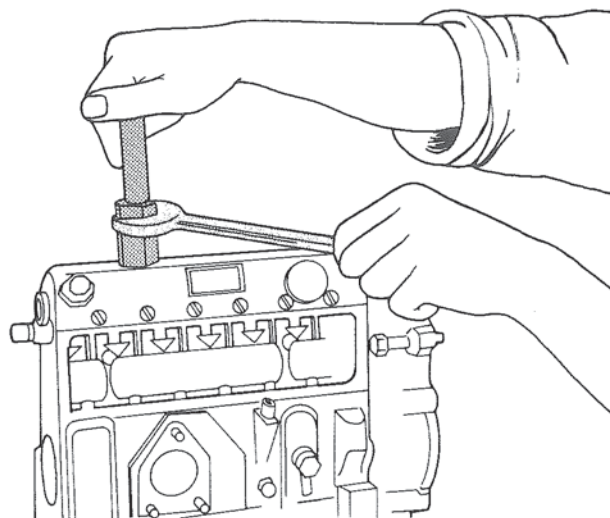

Figure 32. Removing Delivery Valves.
- D. Insert delivery valve extractor, Special Tool No. 95905-05050 carefully into valve seat hole. Figure 32.